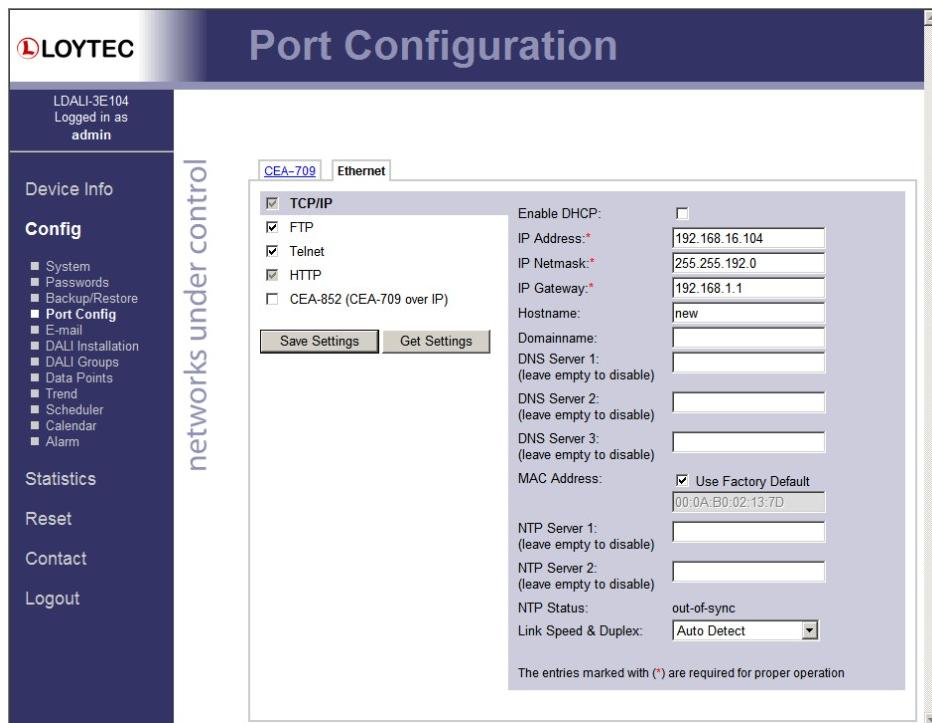

Figure 9: Enter IP address and gateway.
6. The Config menu opens. Click on **Port Config** in the Config menu and select **Ethernet** tab. Enter the IP address, the IP netmask, and IP gateway for this device as shown in Figure 9.